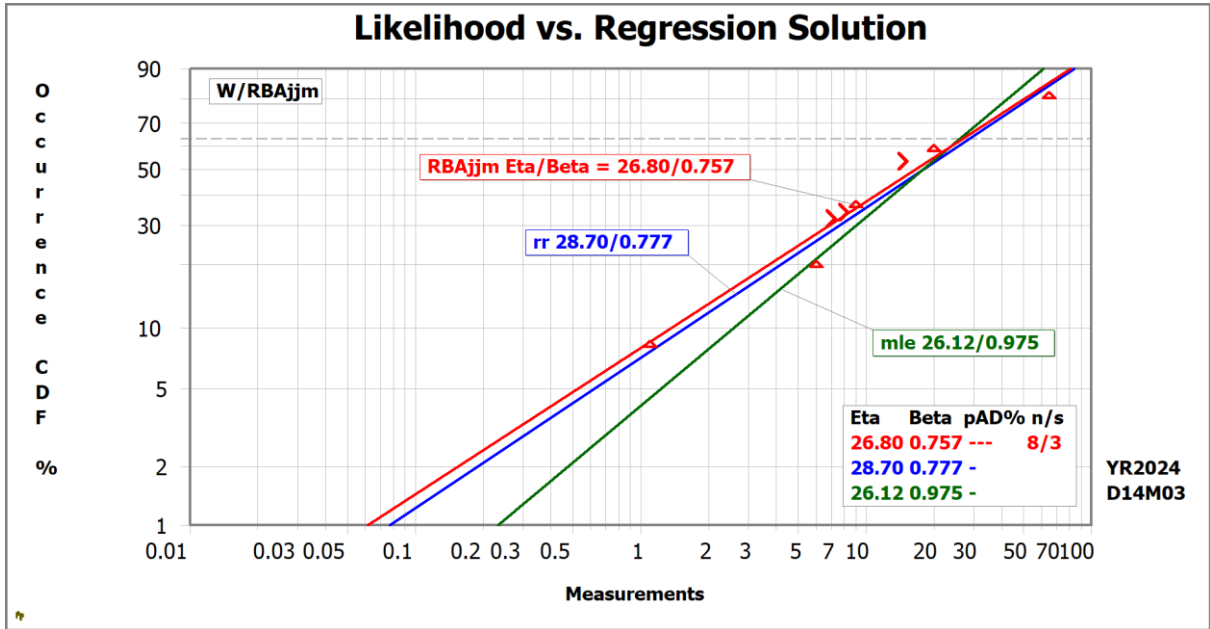

Figure 7: Comparing Rank Regression (rr), Maximum Likelihood Estimate (mle), & mle-RBA (RBAjtm)
- C. From the Main Screen, Home group, select Open/Import, and open the **PlayTIME-Problem-5.w** file. Select the small plot to enlarge, it should look similar to Figure 7, but with only one line plus the data points.
- G. Get “RBAjtm” (mmle) solution as follows: From the Main Screen, select Analysis group, Method/Input again, then select the modified maximum likelihood (mmle) icon (showing mle symbol + 2 arrowheads). “RBAjtm” should appear on the plot for solution method. If not, return to Method/Input, select “F...Fit Method...”, select “T...Modified ... mle Type Select”, then J... Weibull/Gumbel: ‘RBAjtm...’. This latest plot (Figure 7) shows RBAjtm fit (**Eta=26.80, Beta=0.757**) agreeing well with Marker Line # 1 (‘rr’).